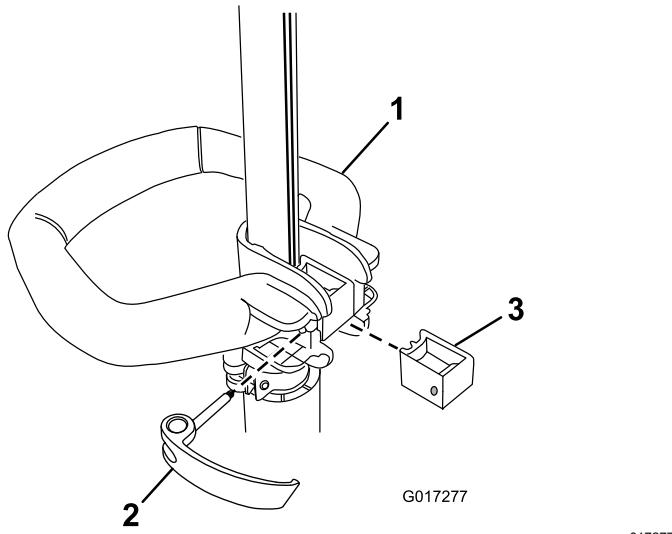

Figure 1
1. Position the auxiliary handle on the shaft of the trimmer with the smooth surface facing you (Figure 1).